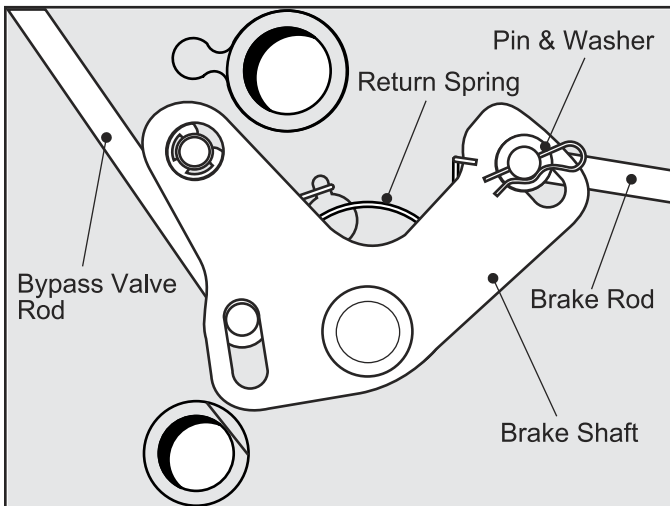

Fig. 9, Brake Rod Assembly
3. Secure the Brake Rod to the Brake Shaft with a Washer and Cotter Pin. (Fig. 9)